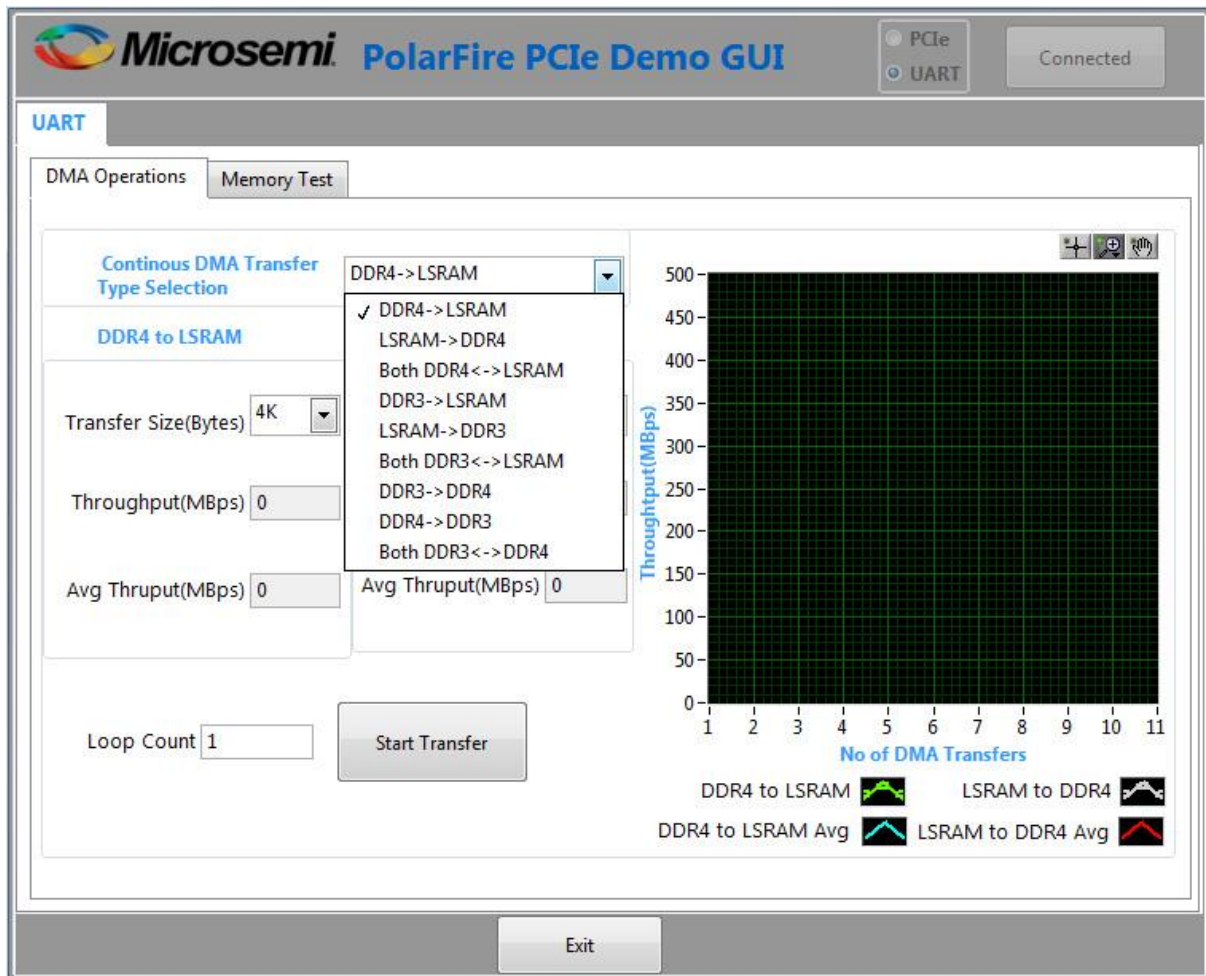

Figure 49: Demo application - UART DMA operations
2. Select the **UART** radio button and click **Connect**. The GUI application scans for UART port and after successful connection, displays the DMA Operations UART tab as shown in Figure 49, page 48.